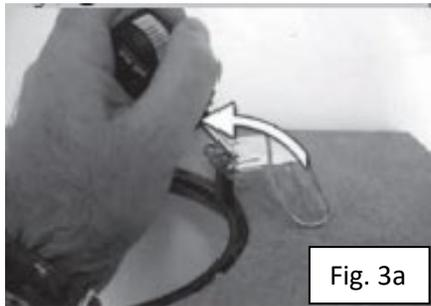

Fig. 3a
- With the help of a small flat head screwdriver begin by positioning spring clips upwards. [Fig. 3a – 3b]